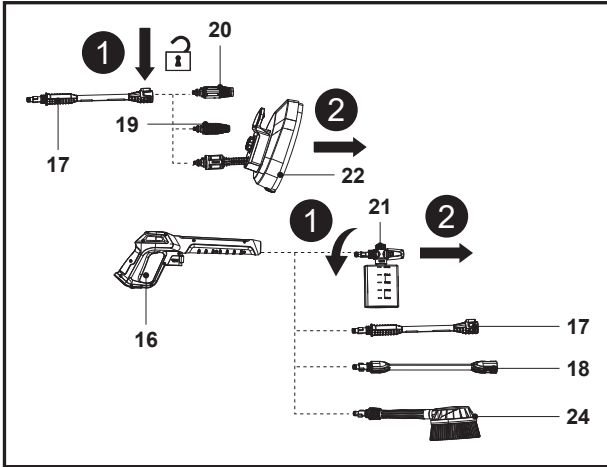

Fig. 21
1. Disconnect the nozzle (19 / 20 / 22) from the extension lance (17); Disconnect the detergent bottle nozzle (21), rotary brush (24), extension lance (17), extension pole (18) from the spray gun (16) (Fig. 21).